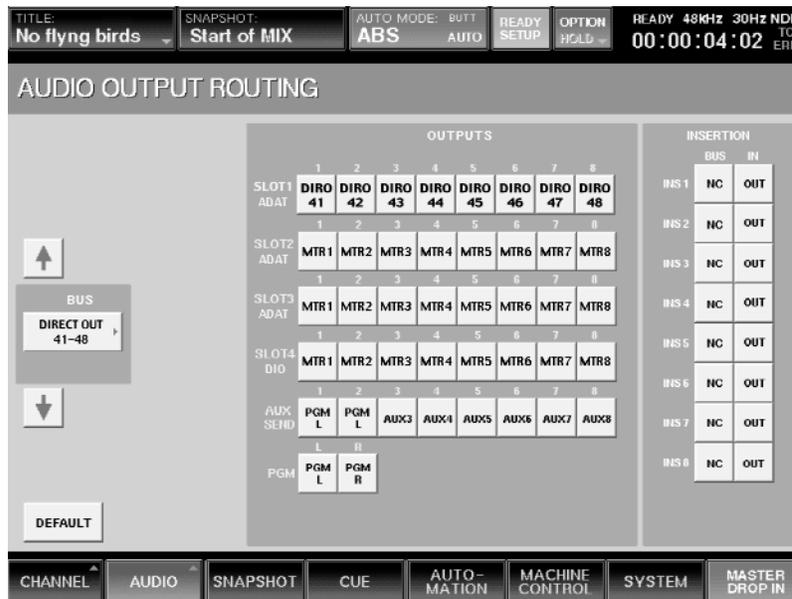

Figure 24
- You can also make output assignments in blocks. To do so, simply press the desired BUS button once only, then press the OUTPUT button of the first of the contiguous output connectors you wish to make the assignment to. For example, to assign Direct Outputs 41 - 48 to the Slot 1 output, press the DIRECT OUT 41 - 48 BUS button once, then press the first of the eight Slot 1 outputs. (See Figure 24)